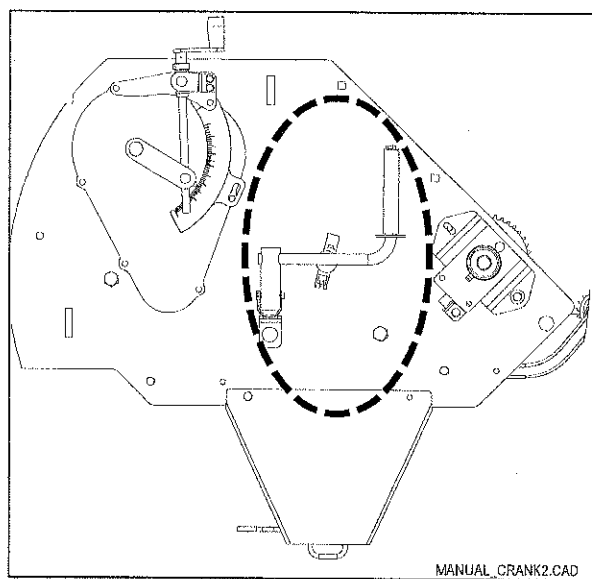

Figure 2.13 - Calibration Crank in Storage
17. Refer to *Figure 2.13*. Remove the calibration crank and secure it in the holder provided.